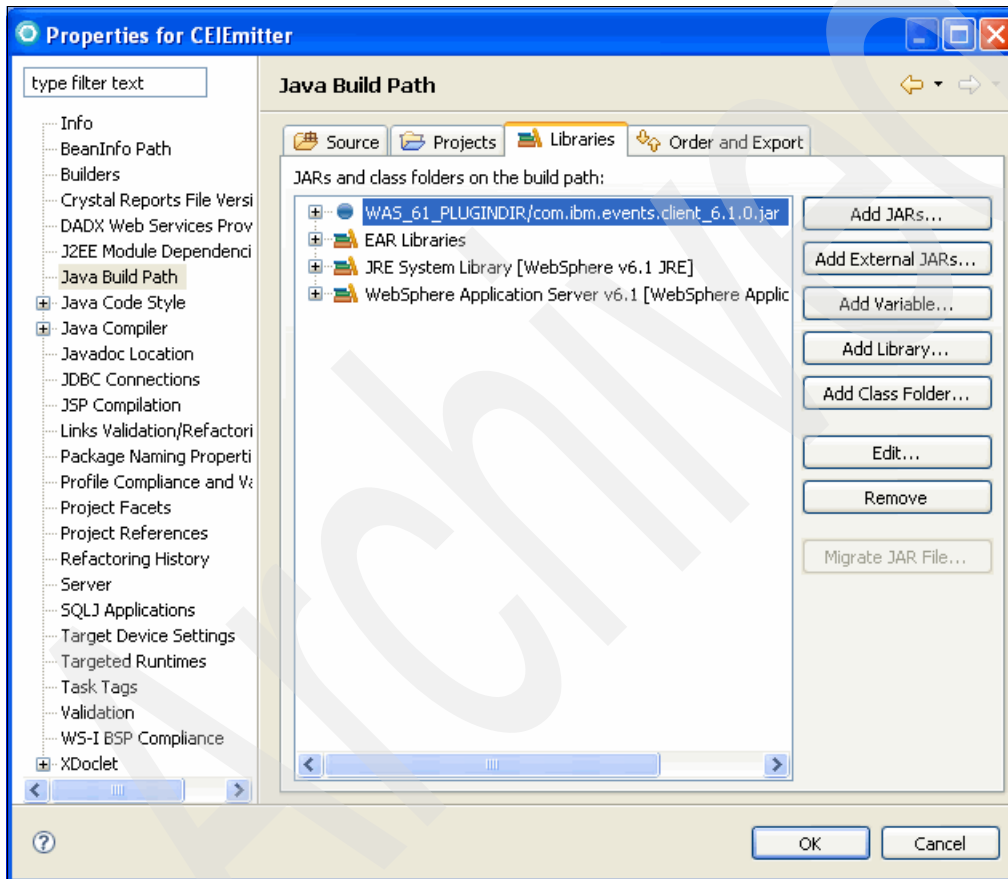

Figure 9-7 Java Build Path pane of the Properties for CEIEmitter window
2. In the Properties for CEIEmitter window (Figure 9-7), in the left pane, select **Java Build Path**. In the right pane, click the **Libraries** tab. Select **WAS_61_PLUGINDIR/com.ibm.events.clients_6.1.0.jar** and click **Edit**.